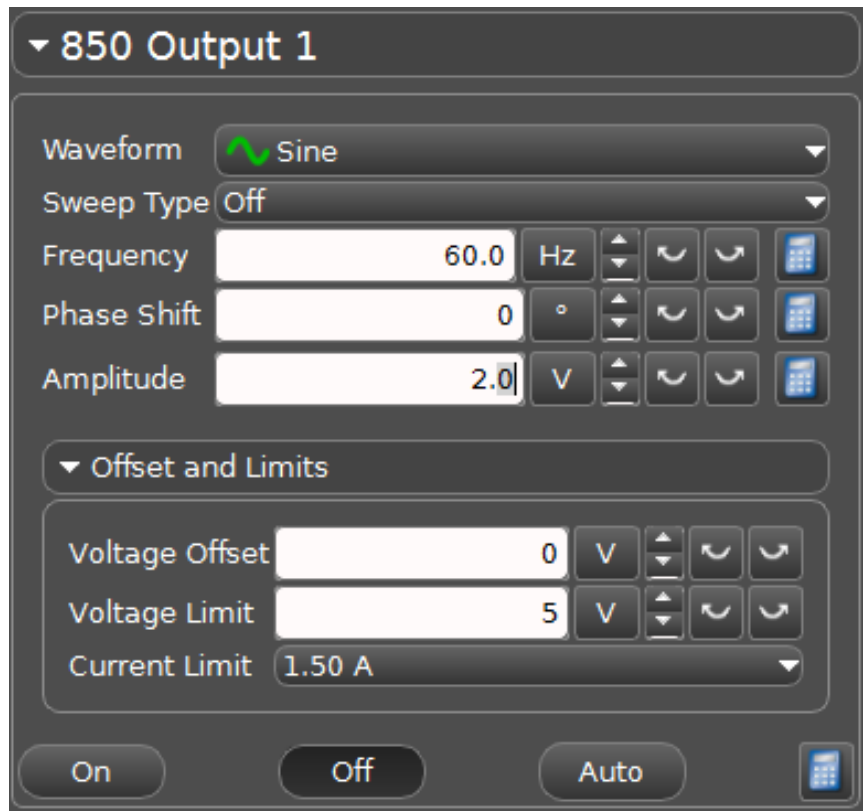

Figure 4: The Pasco Capstone display.
5. Double click on the “Experiment S-201” file in the Lab Software/201 folder on the desktop. The display will appear as shown in Fig. 4.